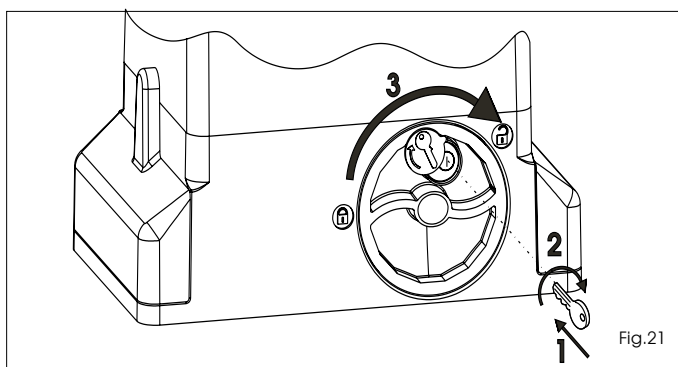

Fig.21
- 1) Insert the appropriate key supplied and turn it clockwise as indicated in Fig.21 refs.1 and 2.
- 2) Turn the release system clockwise until the mechanical stop is reached Fig.21 ref.3.